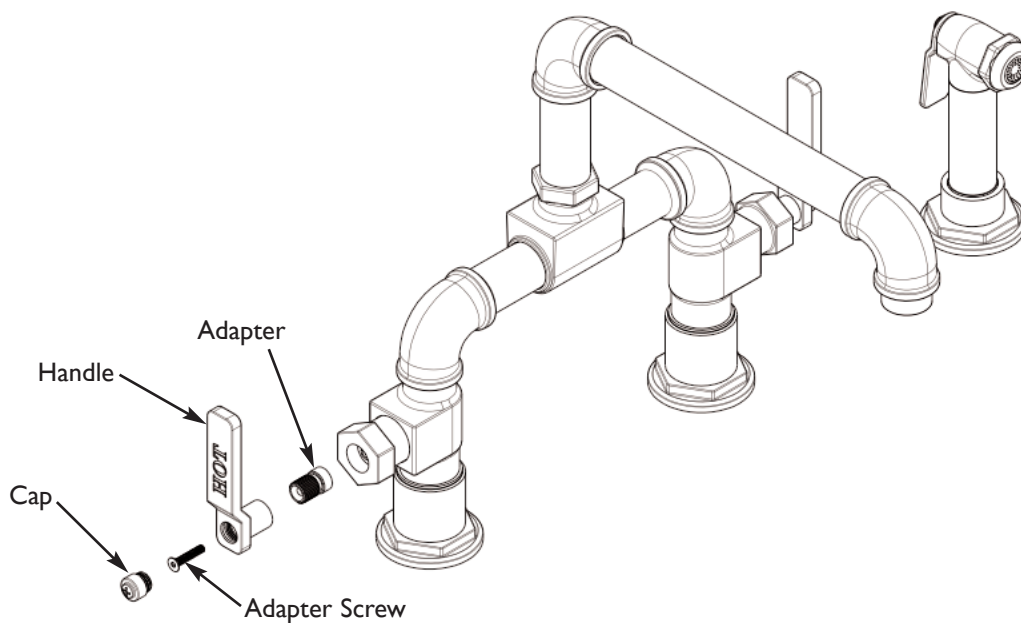

Figure 4
1. In **Figure 4**, ensure cartridges in full closed position and check HANDLE alignment. If the HANDLE is not correctly aligned, temporarily remove the CAP, HANDLE and rotate CARTRIDGE ADAPTER one tooth clockwise, reassemble the HANDLE and recheck alignment. Repeat until the HANDLE is aligned and secure the HANDLE in place with ADAPTER SCREW.